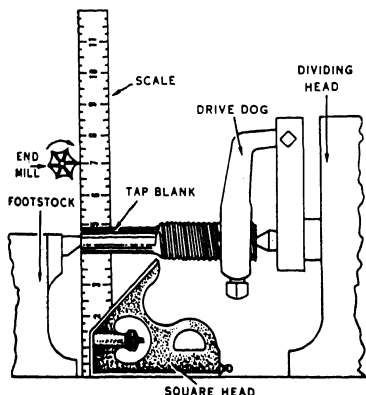

Figure 11-66.—Aligning the work and the cutter.
9. Align the cutter with the end of the work. Use a square head and rule, as shown in figure 11-66.